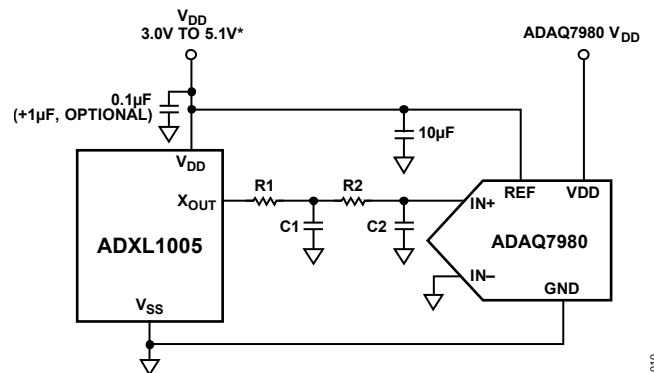

Figure 23. Application Circuit for the ADXL1005
See Figure 23 for an example of the interface, including components when measuring mechanical vibration from 0 kHz to 5 kHz. For a 5 kHz pass band, a single-pole resistor capacitor (RC) filter is acceptable. However, in some applications, use of a more aggressive filter and lower sample ADC sample rate is possible. The following components are recommended to form a 5 kHz low-pass RC filter at the output of the ADXL1005 when interfacing to an ADC, such as the ADAQ7980: $R1 = 91\text{ k}\Omega$, $C1 = 330\text{ pF}$, $R2 = 0\ \Omega$, and $C2$ is not required. A minimum ADC sample rate of 16 kHz is recommended to avoid aliasing. When using sampling rates less than the resonance frequency (typically 42 kHz), be aware and account for the effective gain at the output of the sensor due to the resonance to ensure out of band signals are properly attenuated and do not alias into the band.
See Figure 23 for an example of the interface, including components when measuring mechanical vibration from 0 kHz to 10 kHz. The following components are recommended to form a two-pole RC filter at the output of the ADXL1005: $R1 = 500\ \Omega$, $C1 = 10,000\text{ pF}$, $R2 = 1\text{ k}\Omega$, and $C2 = 10,000\text{ pF}$. A minimum ADC sample rate of 200 kHz is recommended to avoid aliasing.